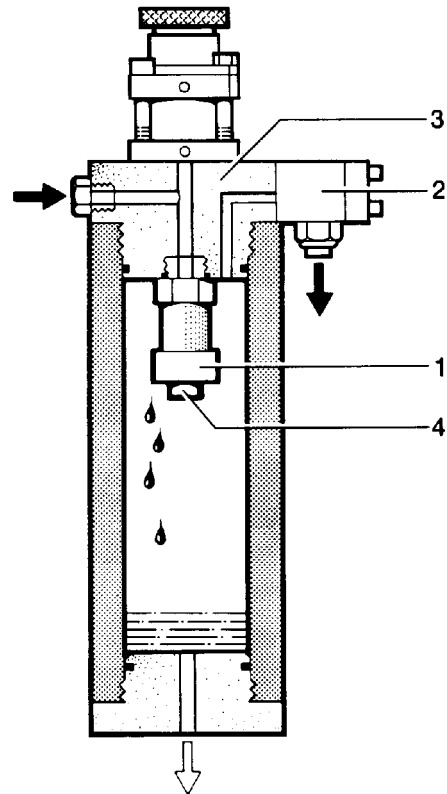

Fig. 29 Oil and water separator
The air leaving the final stage is cooled in the after-cooler to approx. 10 to 15°C (18 to 27°F) above ambient temperature and then enters the oil and water separator (Fig. 29). The oil and water separator works by means of a sintered filter micro-cartridge (1), reliably separating liquid oil and water particles from the compressed air.
Removal of sintered filter element (Fig. 29):